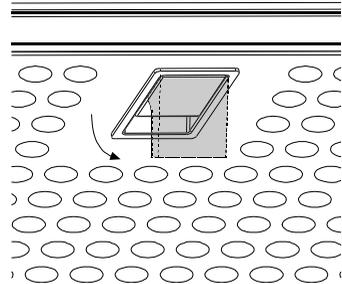

Fig. 3
- First, push the metal grease filter stop backwards, then extract the filter, pulling downwards. Fig. 3.